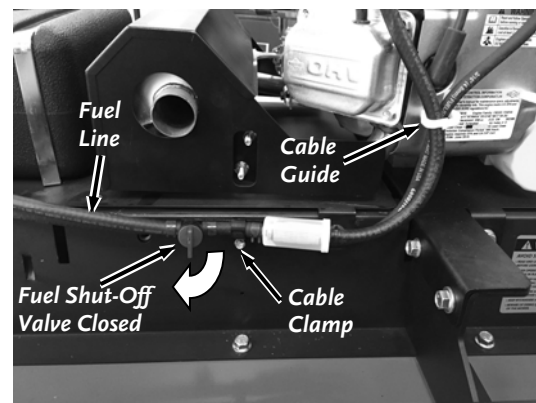

Figure 32
1. Turn the Fuel Shut-Off Valve to the Closed position (**Figure 32**).